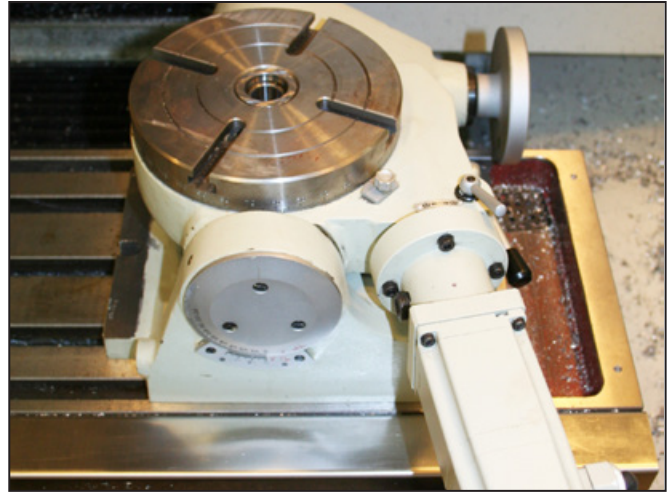

Figure 2
1. Position the 4th Axis on the right side of the table (see **Figure 2**).